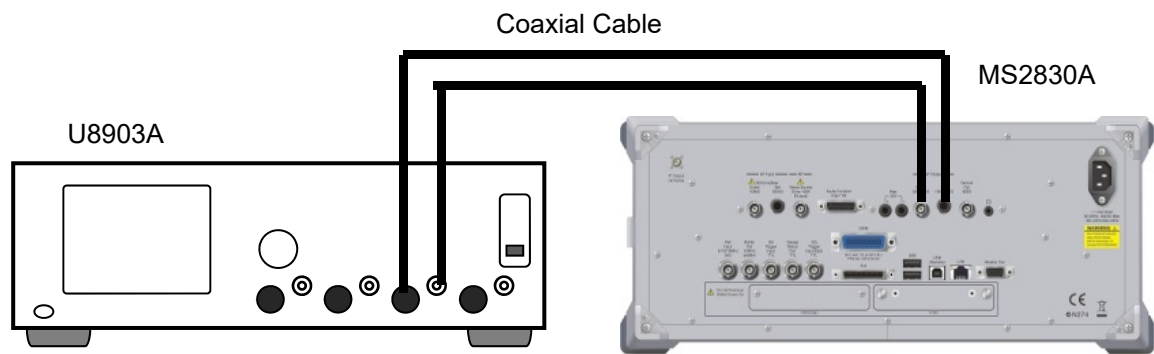

Figure 4.3.5-1 Connection for Output Level Accuracy Test
1. Connect the devices according to Figure 4.3.5-1.